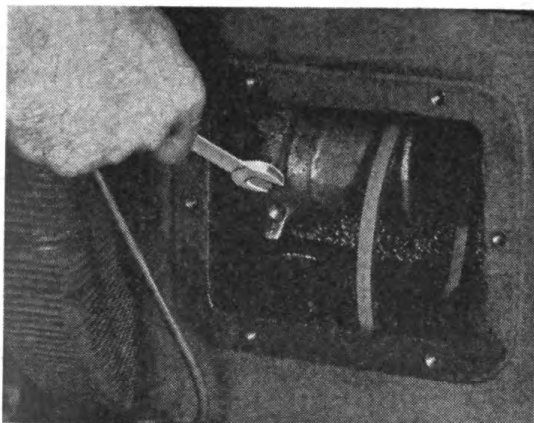

Figure 151
(5) Pull out safety wire and remove connecting rod screws (See Figure 151). Pistons and rods can then be removed from top of cylinder.